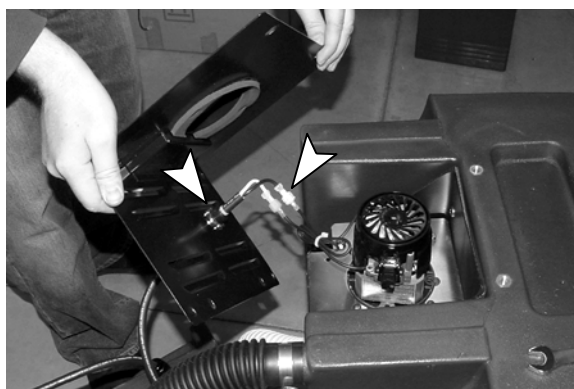

Fig. 3
4. Remove the metal panel from the tank housing, Philips screwdriver required, as shown. Disconnect the vacuum motor wire terminals and remove the wire harness from the metal panel (Figure 3).